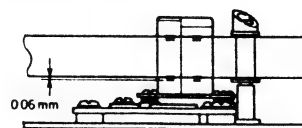

Fig. 2-43 Audio/control head height
10. Carefully and evenly adjust screws (A), (B) and (C) to align the audio/control head height with the tape as shown in Fig. 2-43.